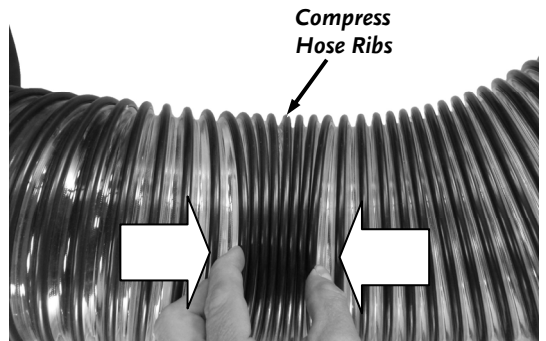

Figure 57
- Compress the Hose Ribs together as much as you can without stretching the Hose too much (**Figure 57**). If more than 6 Ribs can be easily compressed, the Hose should be shortened.